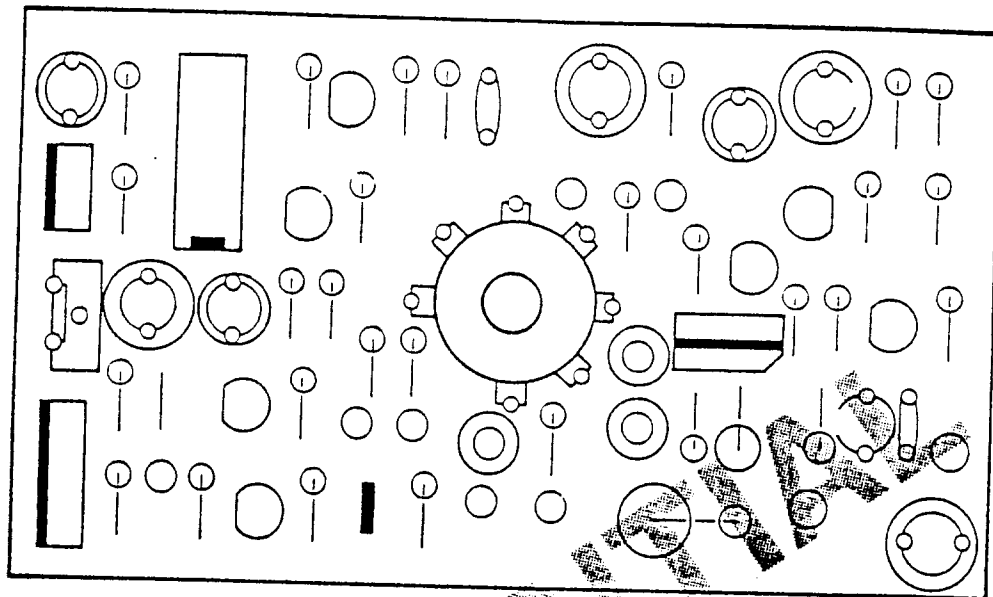

Fig. 1-27 Video Final Amplifier Board Layout
- The other end to the video metal frame (ground) (figure 1-27).